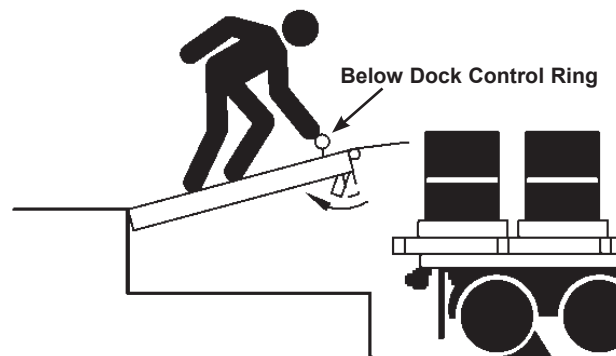

Figure 19
- c. Walk out on the leveler, pull and hold the below dock control ring (located in the recess at the front of the platform). This will cause the safety legs to fold allowing the leveler to lower to the full below dock position. See Figure 19.